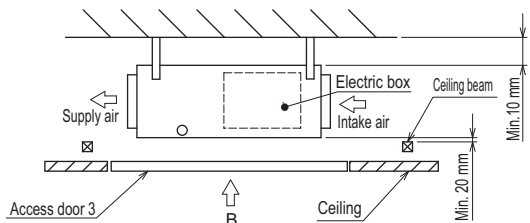

Fig. 3
- (2) When a space of less than 300 mm is available below the unit between the unit and the ceiling (At least 20 mm of space should be left below the unit as shown in Fig. 3.)